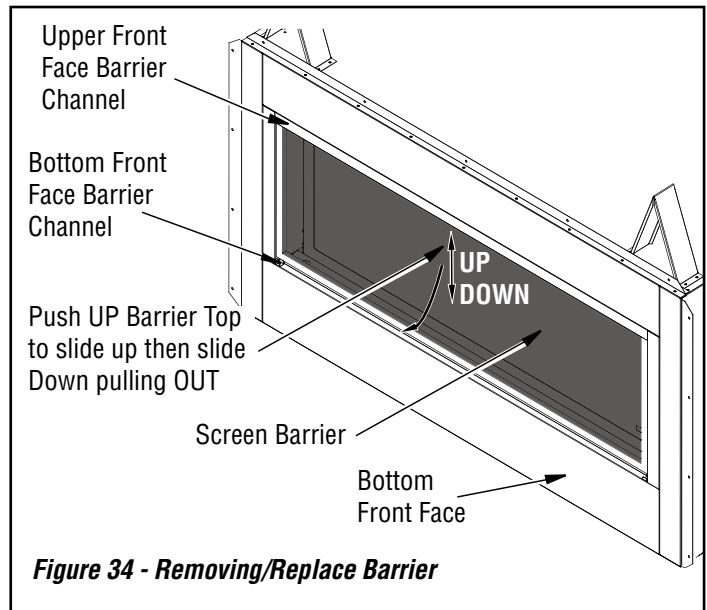

Figure 34 - Removing/Replace Barrier
1. To remove barrier, push barrier top up to slide it up then slide down pulling barrier out (see Figure 34).
2. Install the barrier by sliding in into the top channel with the flat side toward the fireplace, then swinging the base of the barrier into the bottom channel and lowering it into place (see Figure 34).